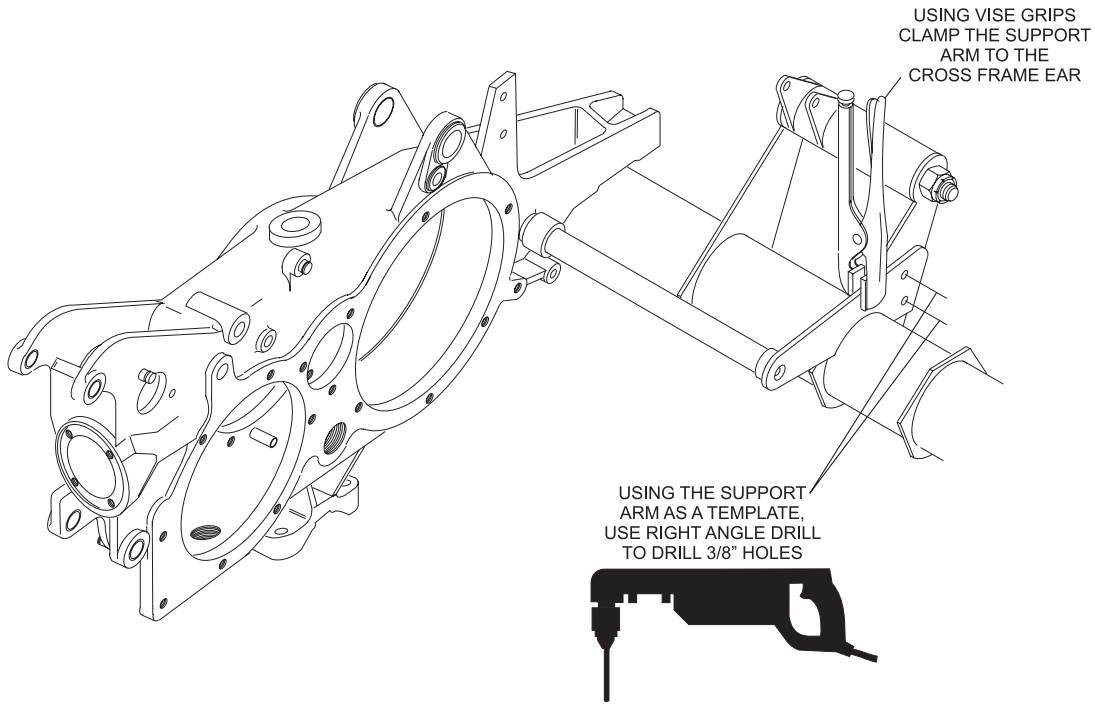

Figure 3
- Using a vise grip, clamp the support arm firmly to the cross frame “ears” where the Deck Holding Hook Assembly is attached. Using the support arm as a template, carefully drill (2) 3/8” holes into the “ears”. Be sure to keep the drill level and straight. Refer to *Figure 3*.